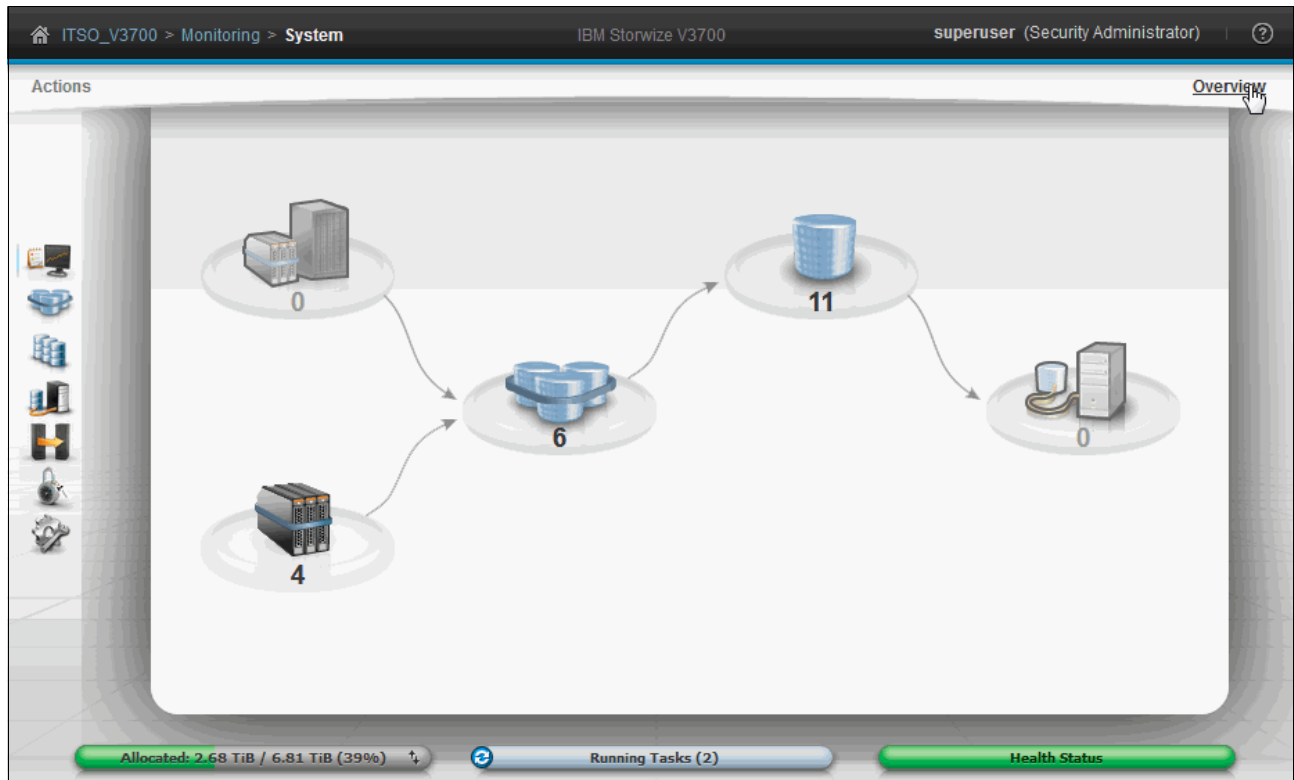

Figure 3-6 System pane: overview
3. The Overview link at the upper right toggles an Overview pane, as shown in Figure 3-6.